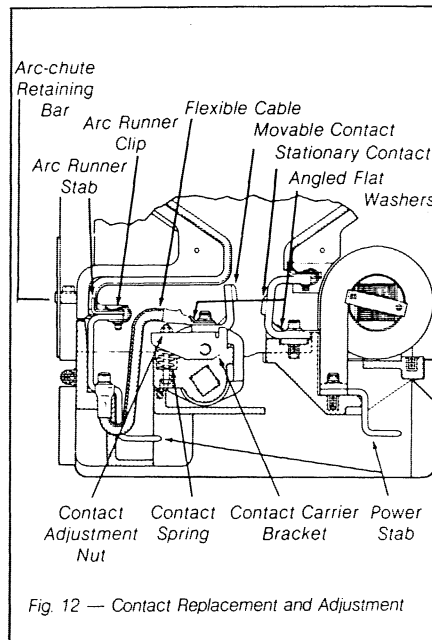

Fig. 12 — Contact Replacement and Adjustment
25. Before starting disassembly, observe the orientation of the flexible cables and also the position of the angled flat washer used with both the stationary and movable contacts. See Figure 12.
29. Install a new movable contact, new angled flat washer and the straight lug end of a new flexible cable to each movable contact support assembly, using a 5/16" - 18 x 1" hex socket head cap screw. See Fig. 12.
- B. The movable contact and angled flat washer must be installed as shown in Figure 12.
30. Place each new preformed flexible cable in the same orientation as the previously removed cable, i.e. Straight along the movable contact support assembly, looped down toward the bottom of the contactor, right angle lug installed to the load stab assembly perpendicular to the load stab (see Figure 12, using the 5/16"-18 x 1" hex socket head cap screws tightened to 140-150 inch pounds (190-203 N-m) torque.
Refer to Figures 12 and 13.